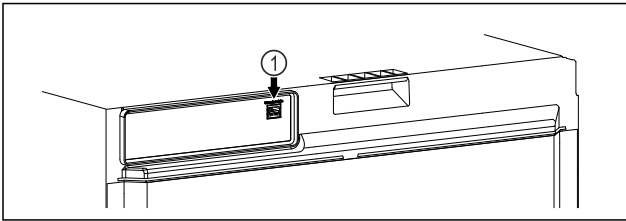

Fig. 91
- SmartModule Fig. 91 (1) has been inserted.